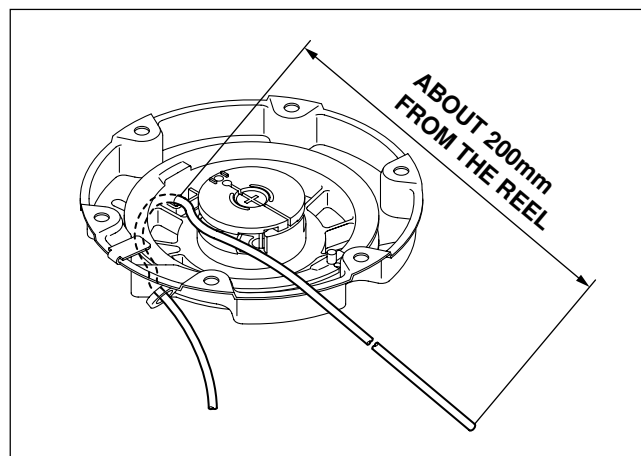

Fig. 9-7
-2 : Set the reel to keep the position, whereby the rope hole of the reel and the rope guide make a direct line. (Fig. 9-7)
(Fig. 9-7)